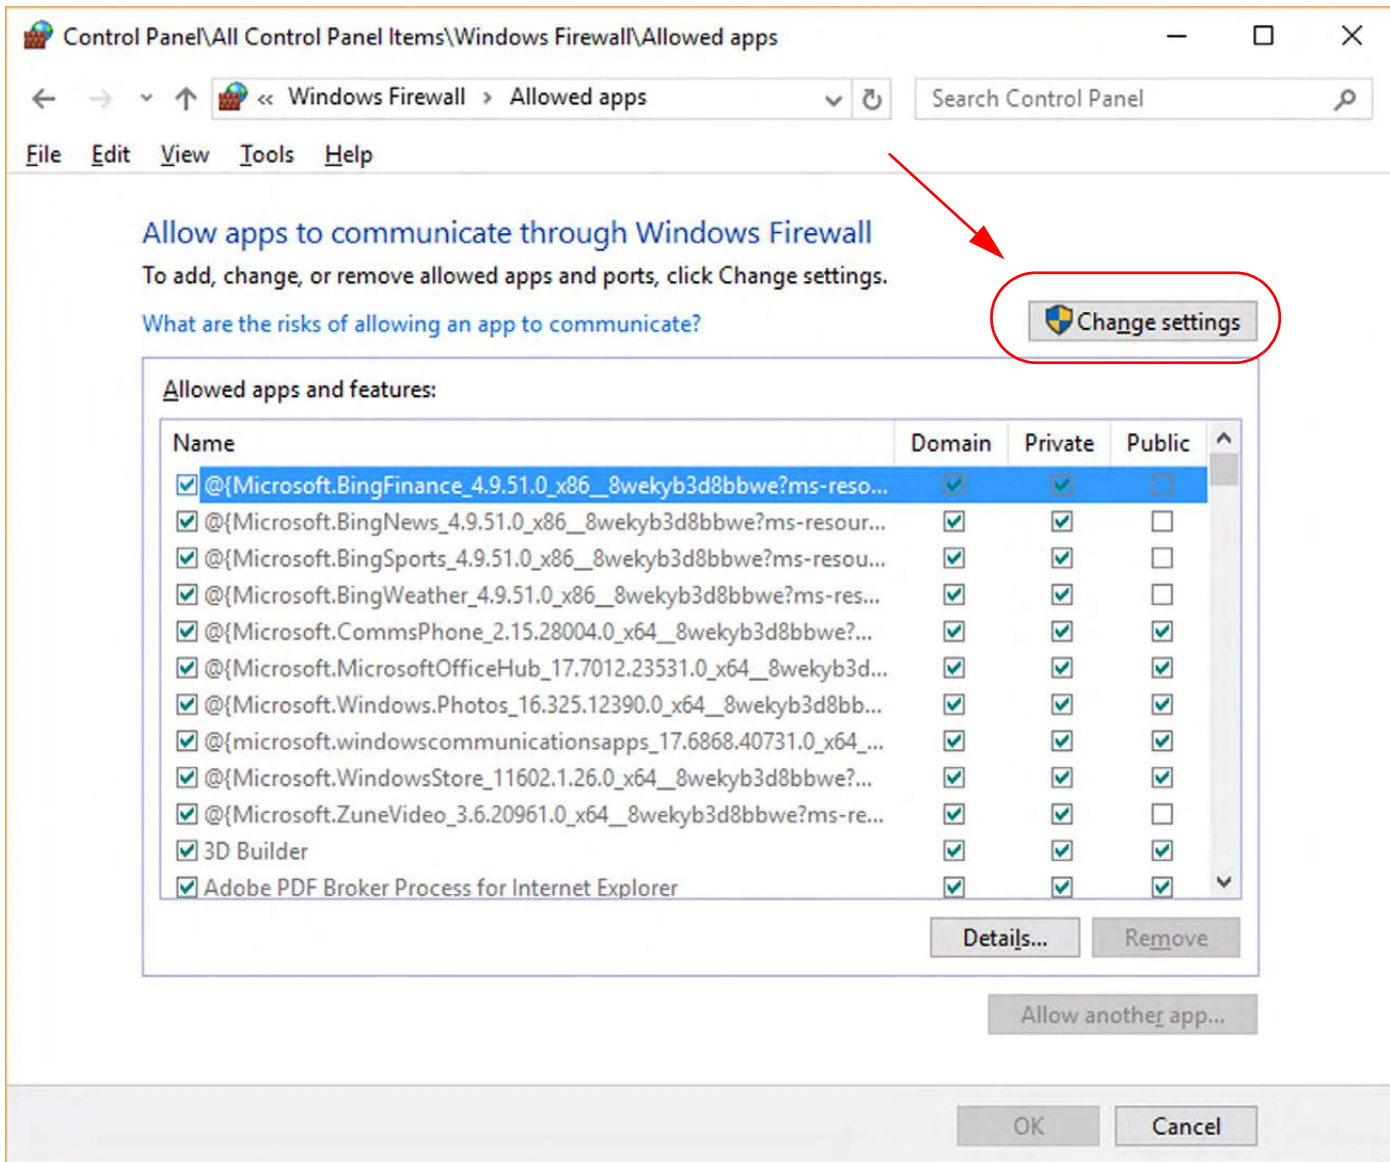
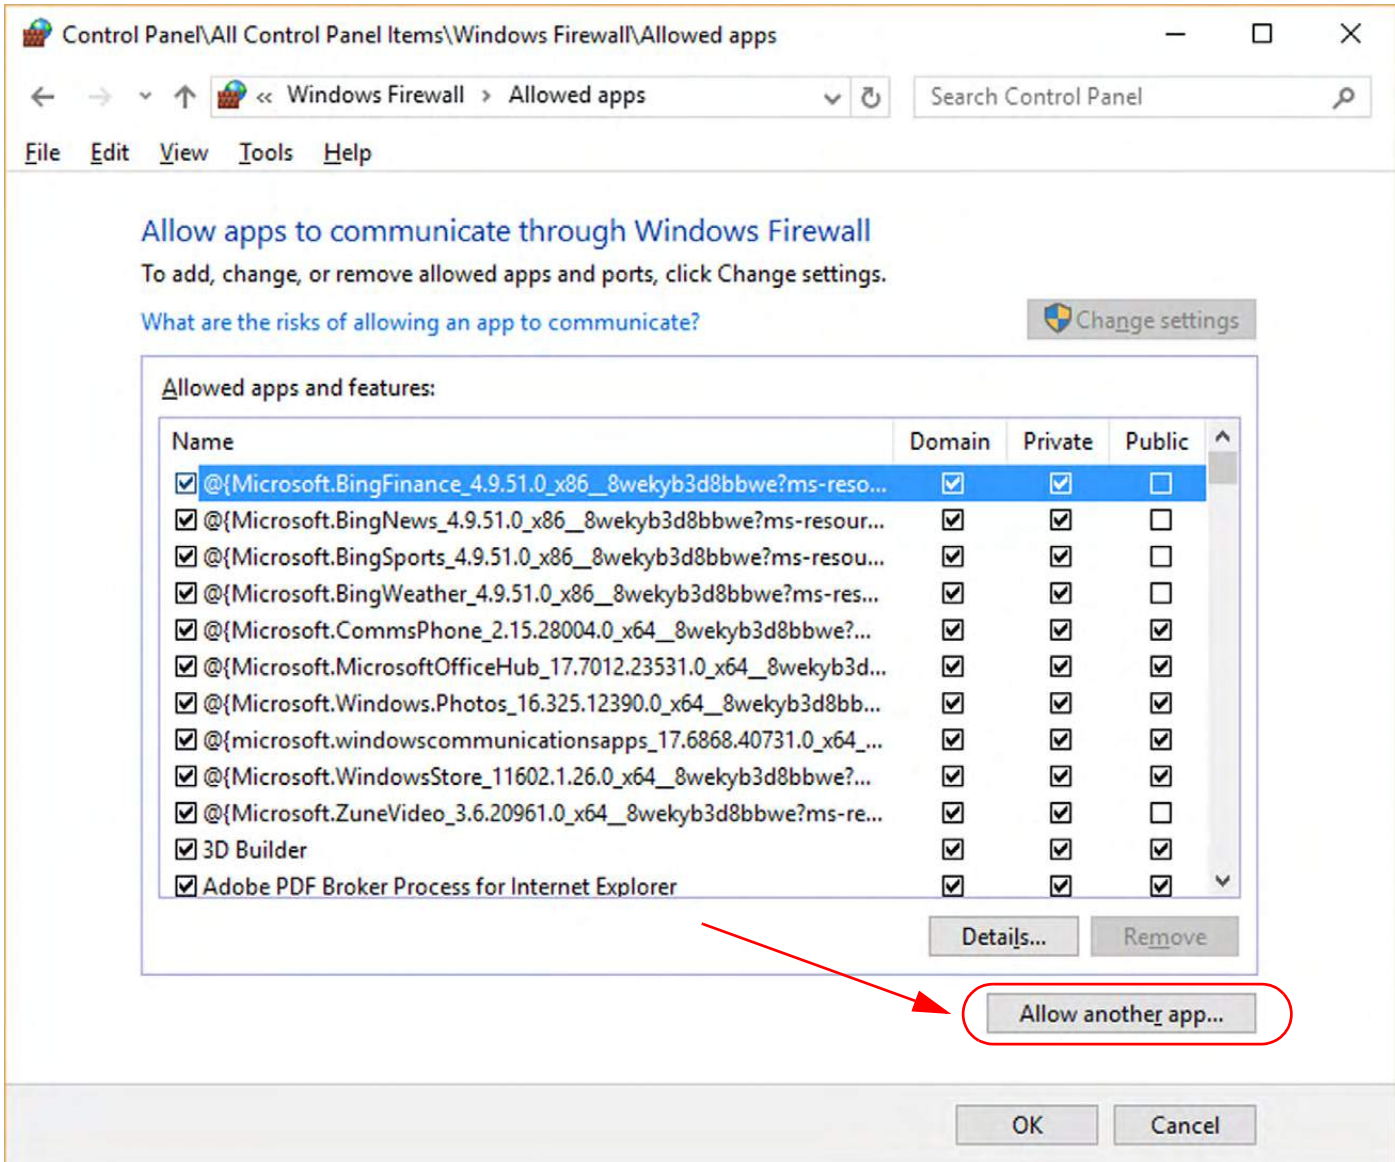

Figure 3.21: Windows 10: Change Settings -> Change settings
Figure 3.22: Windows 10: Change Settings -&gt; Allowed Another app
4. From the Windows Firewall screen -> Allow apps to communicate through Windows Firewall, select "Change settings", then select "Allow another program". See Figure 3.21 and Figure 3.22 on page 113.